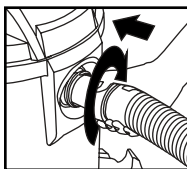

FIGURE 28
36. Reinsert hose into inlet and tighten the locking-nut. **FIGURE 28.**